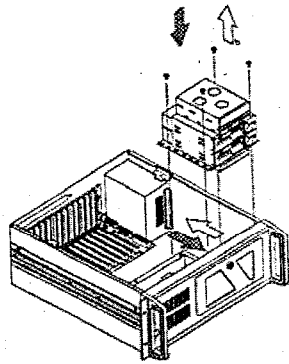

Figure 2.3-2: Inserting/removing the drive bay
1. Remove the four outer screws which mount the shock-resistant drive-bay to the chassis. (See Figure 2.3-2)